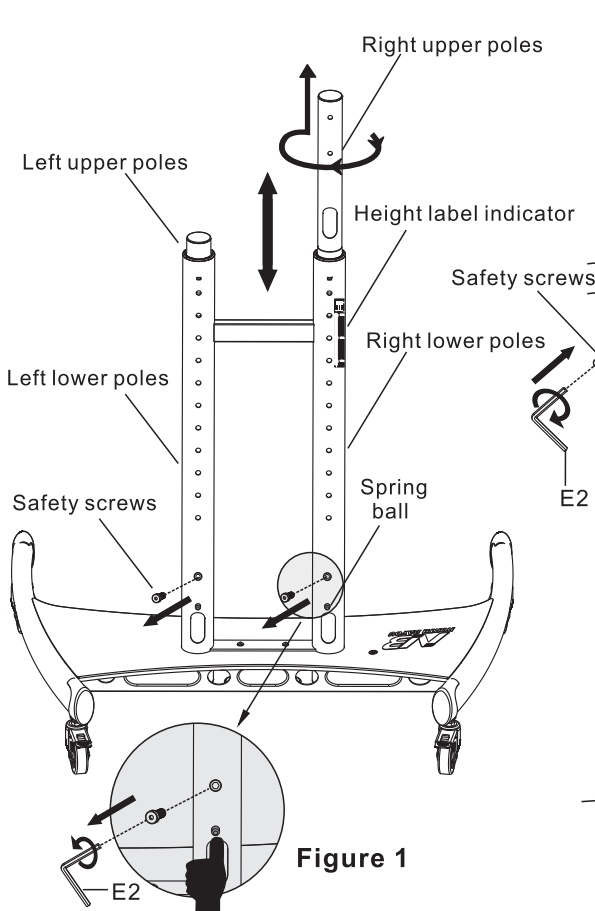

Figure 1
- Step 1. To re-set TV height, need 2 man, 'A' man holds TV bottom by 2 hands as shown in Fig 1.